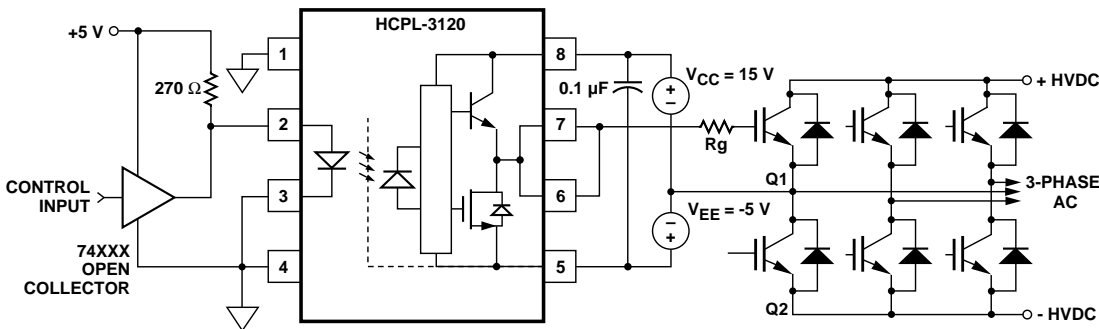

Figure 26. HCPL-3120 Typical Application Circuit with Negative IGBT Gate Drive.
**Step 1: Calculate Rg Minimum from the IOL Peak Specification.** The IGBT and Rg in Figure 26 can be analyzed as a simple RC circuit with a voltage supplied by the HCPL-3120.
For the circuit in Figure 26 with IF (worst case) = 16 mA, Rg = 8 Ω, Max Duty Cycle = 80%, Qg = 500 nC, f = 20 kHz and TA max = 85C: